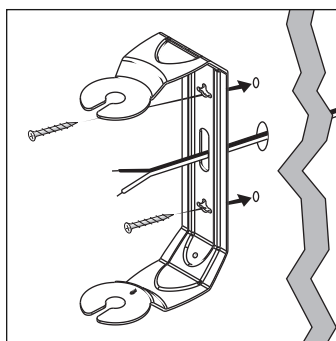

FIGURE 12: Feed speaker wire from wall through bracket wire hole for easy mounting.
9. If you're feeding speaker wire through a hole in the wall behind the bracket, pull this speaker wire through the hole in the bracket before mounting the bracket [figure 12].